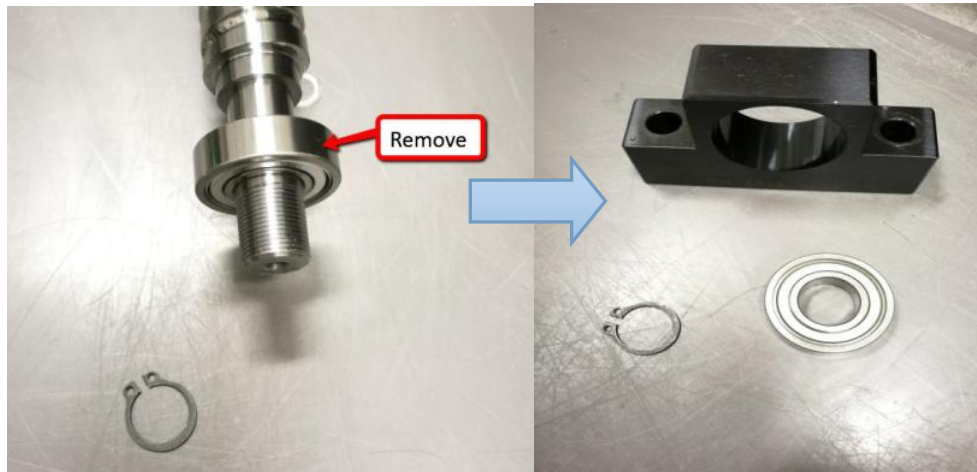

Figure 22 Rear Bearing Block, C-Clip and Bearing [COMPLETE]
23. Parts (Rear Bearing Block, C-Clip and Bearing)removal complete as below Figure 22.